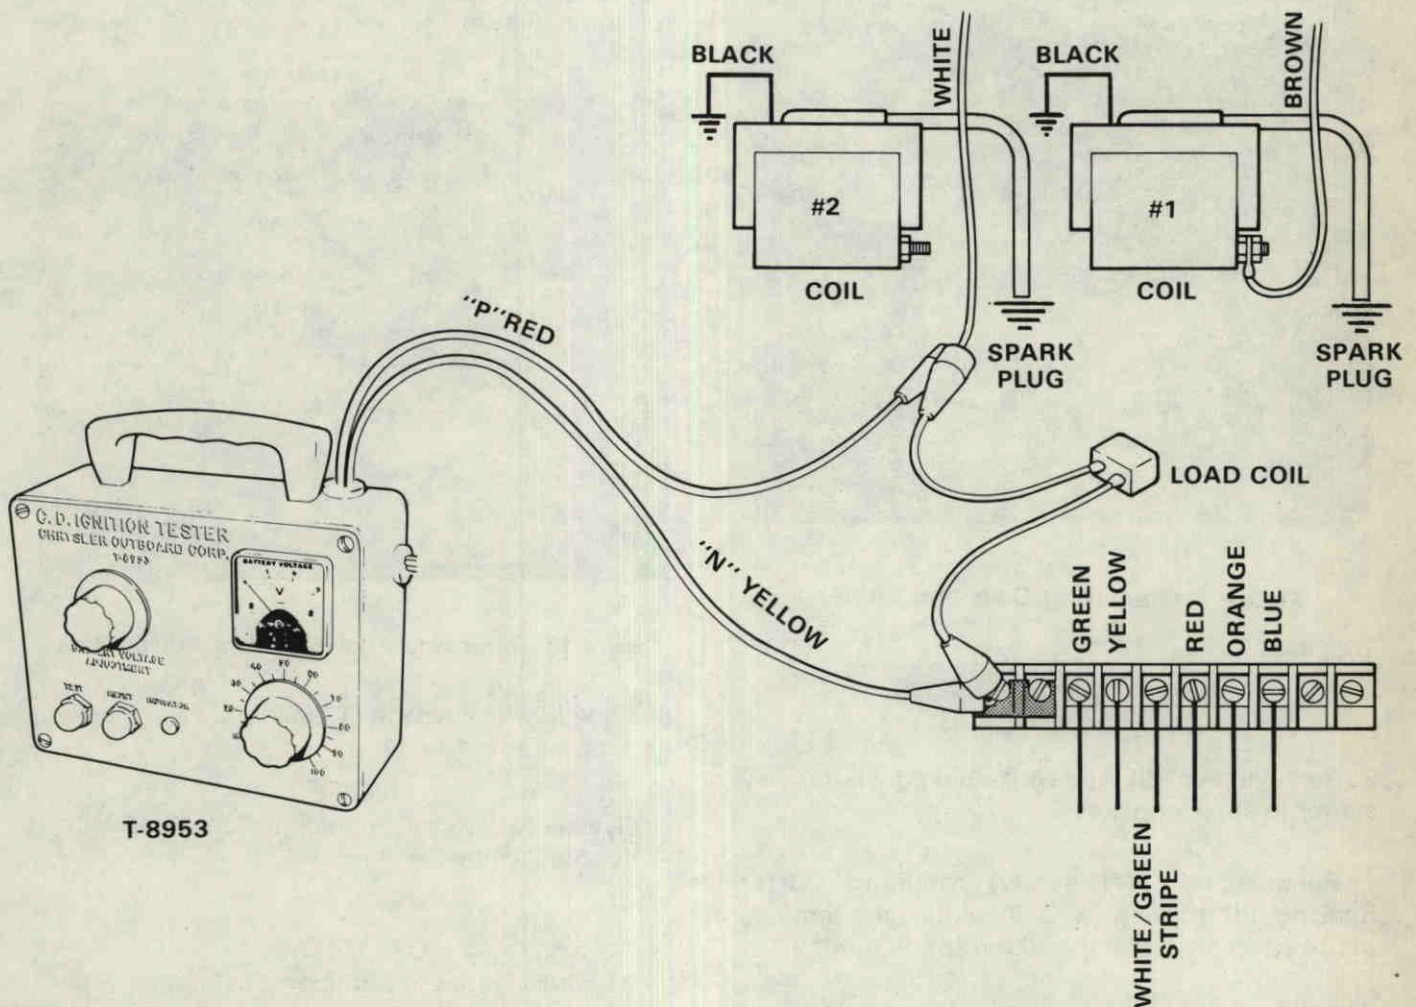

Figure 10
2. Clip one lead of load coil to white wire from C-D unit. Clip other load coil lead to ground terminal at terminal block, Figure 10.
C-D unit (same wire as load coil in Step #2), Figure 10.
4. Connect Tester "N" lead (yellow) to ground terminal, Figure 10.